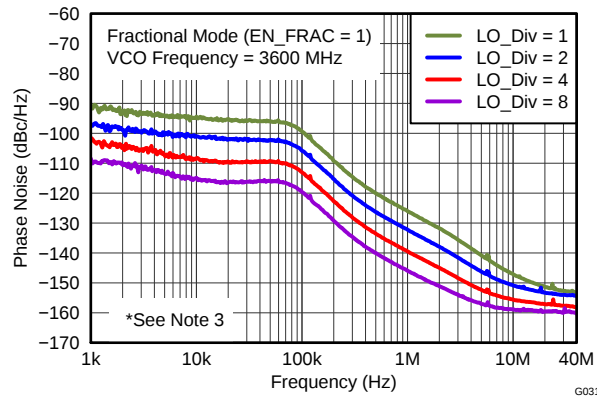

Figure 33. Closed-Loop Phase Noise vs Divide Ratio ( $V_{CC\_TK} = 3.3\text{ V}$ , Fractional Mode)
| Closed-Loop Phase Noise                           | vs Divide Ratio (3)             | Figure 33                                                                   |